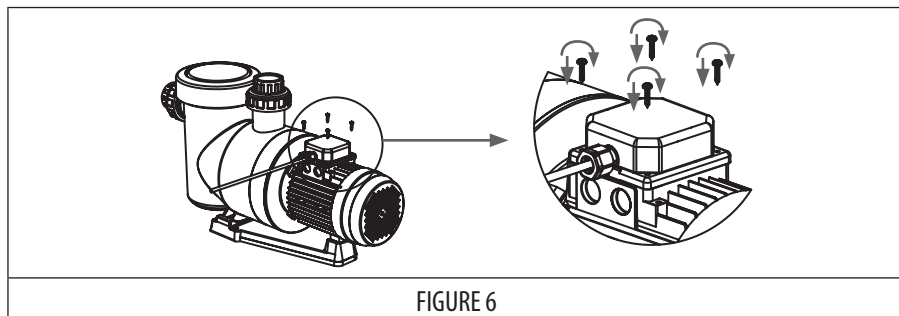

FIGURE 6
5. Close the connection box, check that the seal is in place and tighten the screws. (FIGURE 6)